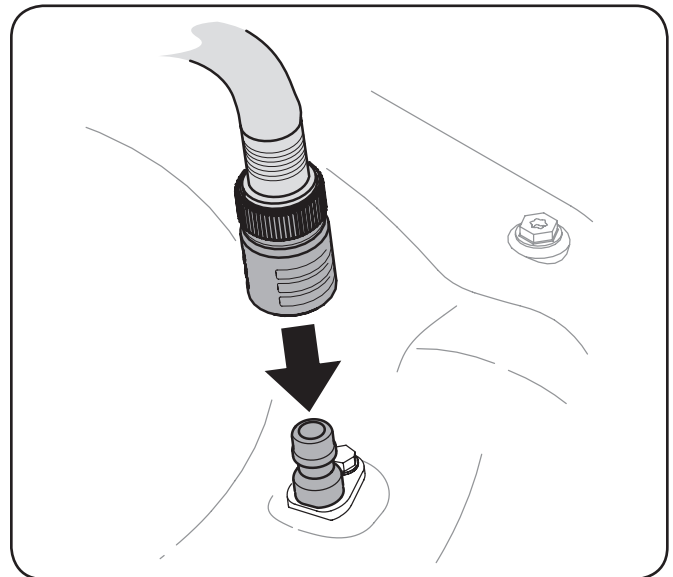

Figure 6-2
3. Attach garden hose with the deck wash nozzle to the water port on your deck's surface. See Figure 6-2.